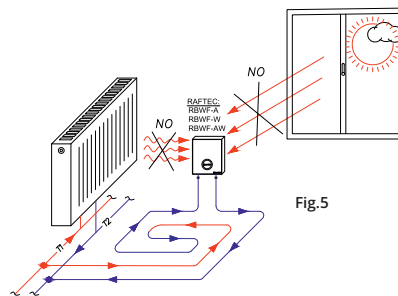

Fig.5
- it is necessary to avoid sunlight on the thermostat (see Fig. 5)